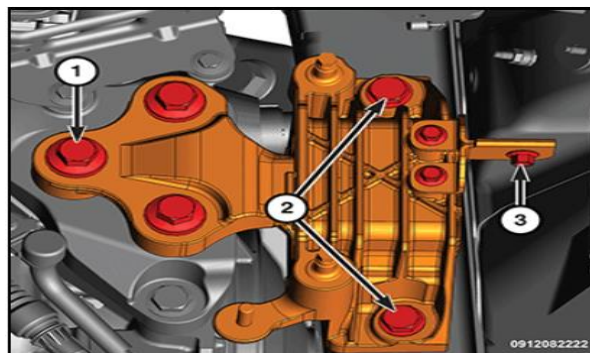

Figure 11. Left Transmission Mount
3. Tighten the left transmission mount to strut tower bolt (Fig 11. Labeled 3) to the proper \(Torque Specifications\), if equipped.
4. Tighten the left transmission mount to frame rail bolts (Fig 11. Labeled 2) to the proper \(Torque Specifications\).
5. Tighten the left transmission mount to transmission bracket bolts (Fig 11. Labeled 1) to the proper \(Torque Specifications\).